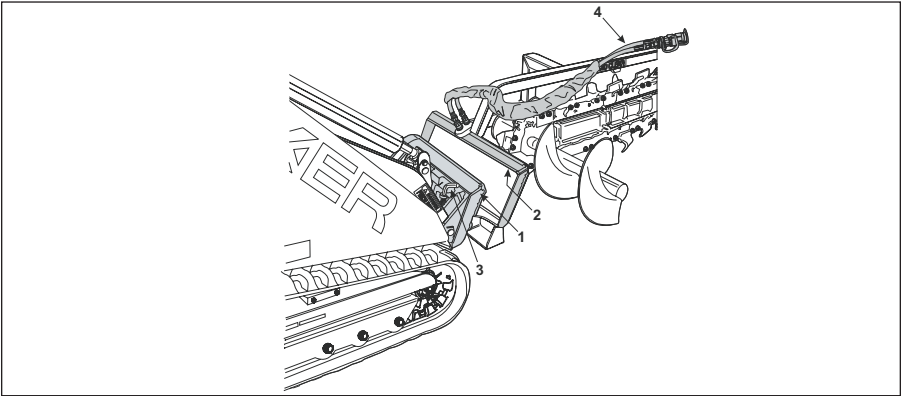

Figure 3-32 Hydraulically Powered Attachment Installation
3. Slowly drive towards the attachment and align the top edge of the male mounting plate (Item 1, Figure 3-32) and the upper lip of the female attachment mounting plate (Item 2, Figure 3-32).
Make sure to position the attachments hydraulic hoses (Item 4, Figure 3-32) so that they are not damaged during the installation process.